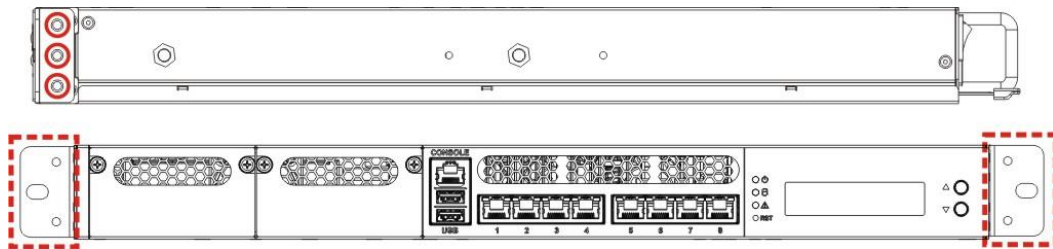

Figure 3-20: Rack Mount Bracket Installation
- Step 1:** Install the rack mount brackets to the sides of the PUZZLE-5030 by inserting three retention screws (M4*6) into each bracket (**Figure 3-20**). Make sure the screws are tight and on the right positions.